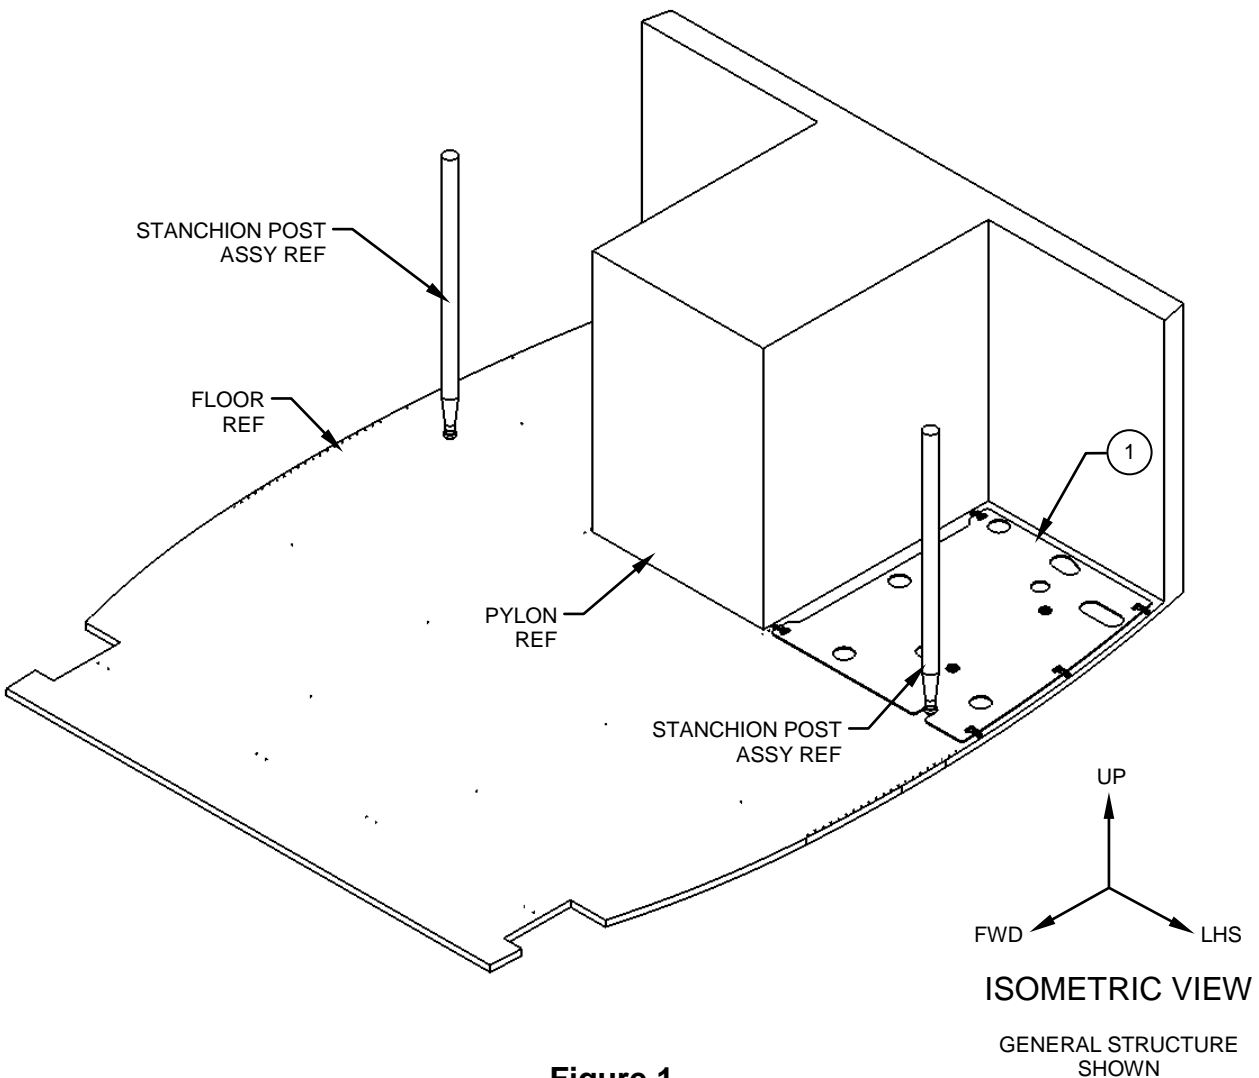

Figure 1
1. Temporarily remove the 2 Man, LHS, outboard facing seat/seat legs and any other fixed or loose items that may obstruct the installation of the Floor Board Assy, Item 1. Reference Figure 1.